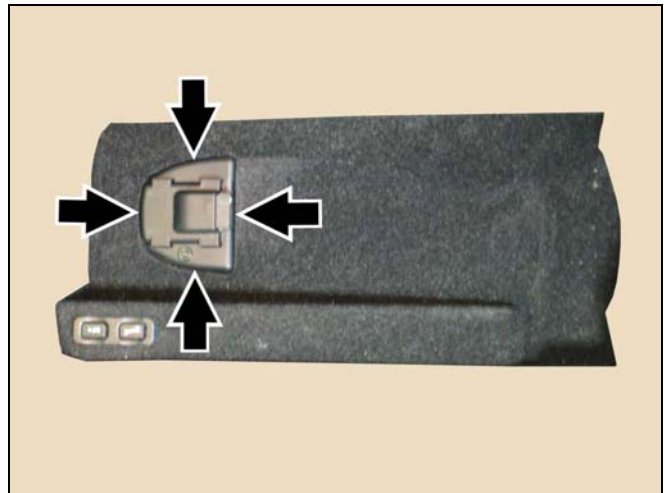

Figure 39
- Carefully snap the contact plate into the false floor knockout hole (Figure 39).